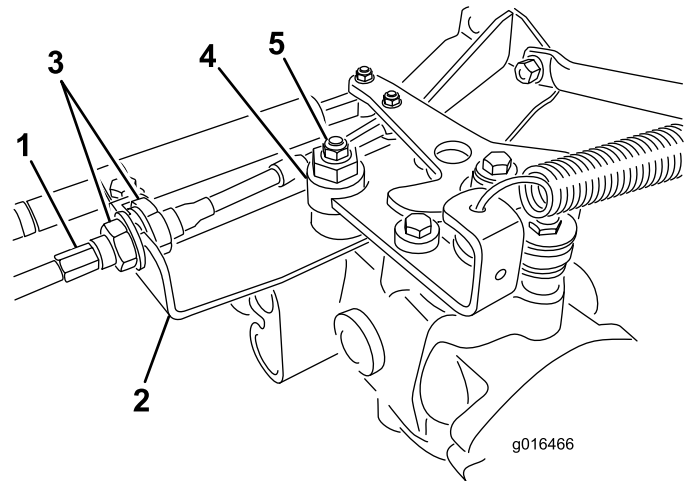

Figure 42
- A. Loosen both jam nuts securing the traction control cable to the bulkhead on the hydrostat (Figure 42). Make sure the jam nuts are loosened equally and sufficiently to allow adjustment.
- B. Loosen the nut securing the eccentric to the top of the hydrostat (Figure 42).
- D. Rotate the eccentric until creep does not occur in either direction. When the wheel stops rotating, tighten the nut locking the eccentric and the adjustment (Figure 42). Verify the adjustment with the throttle in the Slow and Fast position.
- E. From each side of the bulkhead, tighten the locknuts **evenly**, securing the traction cable to the bulkhead (Figure 42). Do not twist the cable.